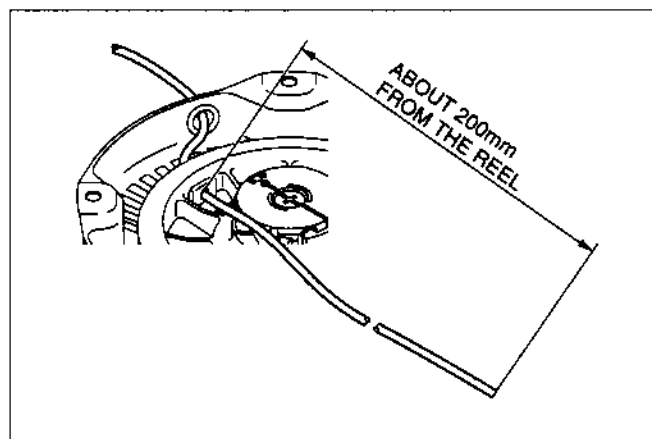

Fig. 9-7
(3) Tightening the set-screw.
(4) Storing the spring-power.
- 2: Set the reel to keep the position, whereby the rope hole of the reel and the rope guide make a direct line. (Fig. 9-7)
(5) Setting the rope. (2 persons required)
- 1: Set the end of the rope through the rope guide and the rope hole of the reel and pull the end about 20 cm out of the reel. (Fig. 9-7)